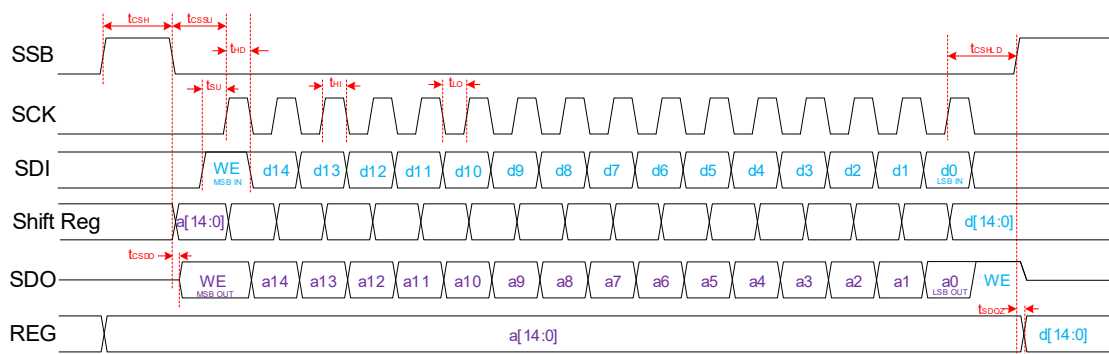
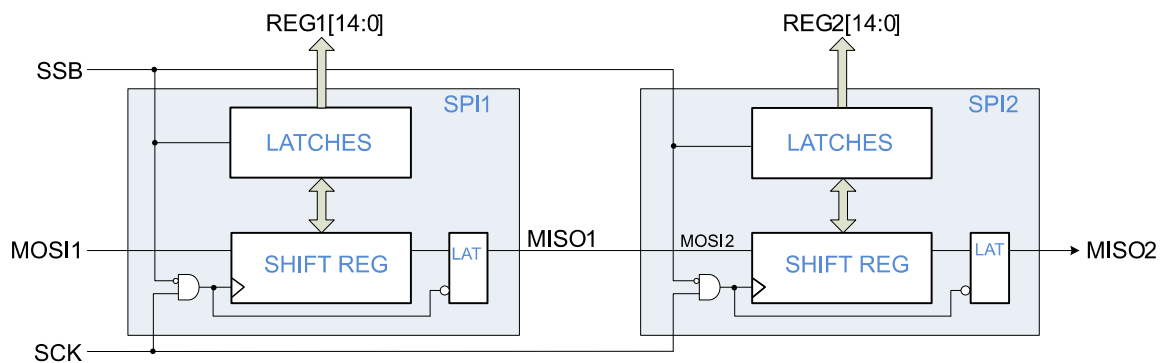
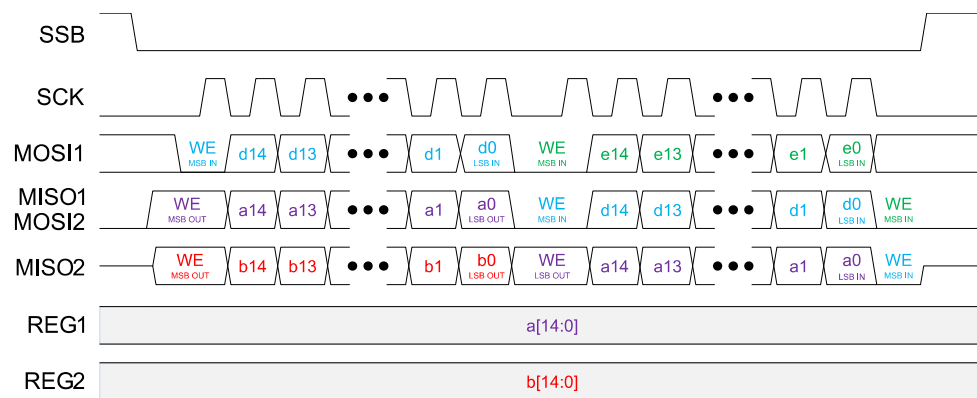
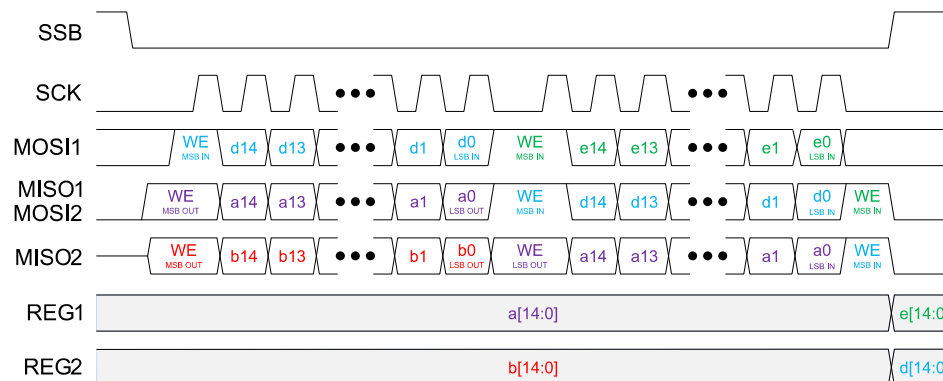

Figure 9. SPI Timing Diagram
Figure 12. SPI with 2 ICs Daisy-Chained
Figure 13. SPI Read Only (2 ICs Daisy-chained)
Figure 14. SPI Read & Write (2 ICs Daisy-Chained)
MODE = 0, activates the 16-Bit Serial Peripheral Interface (SPI) module for operation. Multiple devices can be daisy-chained to drive multiple ICs using one SPI bus (see Daisy Chain Operation, Figure 12, Figure 13, and Figure 14). The SPI works at any frequency up to a maximum of 33 MHz and may operate at significantly lower frequencies if the logic signals adhere to the data setup and hold requirements.
SPI timing diagrams are provided in Figure 9 through Figure 14. In SPI mode, data transmission starts when SSB goes Low, causing the Target to output the Most Significant Bit (MSB) of data to the SDO (MISO) pin. Data transfer from Host to Target takes place during the rising edge of the clock (SCK), which is idle when SSB is High. This mode of operation requires data for Host and Target to be present on SDI (MOSI) before the rising edge of the clock (defining SDI to SCK setup time). Data is pushed out of the SDO (MISO) pin during the falling edge of the clock. After the first 16-bit transaction, Host writes the latest data (DN) to Target, while Target passes its previous (DN-1) stored data to the Host. Data is latched into the internal registers at the rising edge of SSB, if WR_EN = 1.
Daisy chaining the ICs is permitted and involves connecting the MISO of one chip to the MOSI of the next chip in the chain, as shown in Figure 12. SPI timing diagrams with daisy-chained devices are provided in Figure 13 and Figure 14.